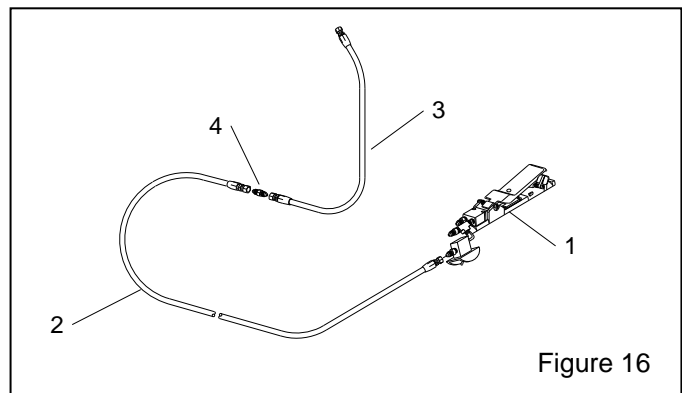

Figure 16
7.4 ACS System Replacement Parts, Figure 16